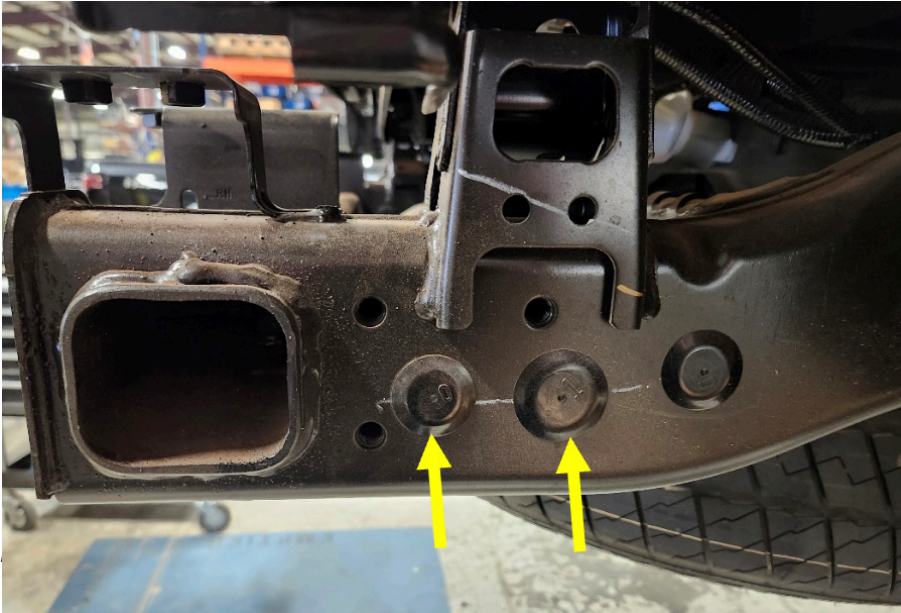

Figure 20
21. Remove two (2) rear most plastic plugs on inside and outside of frame using hammer and straight screwdriver. Repeat for both sides of truck. (Figure 20)